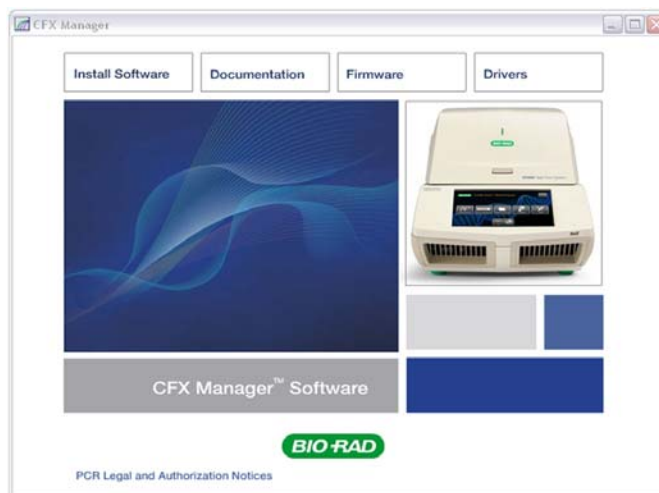

Figure 3. Software installation screen.
3. The software launch page should appear automatically. Double-click **Install Software** on the software launch page (Figure 3).